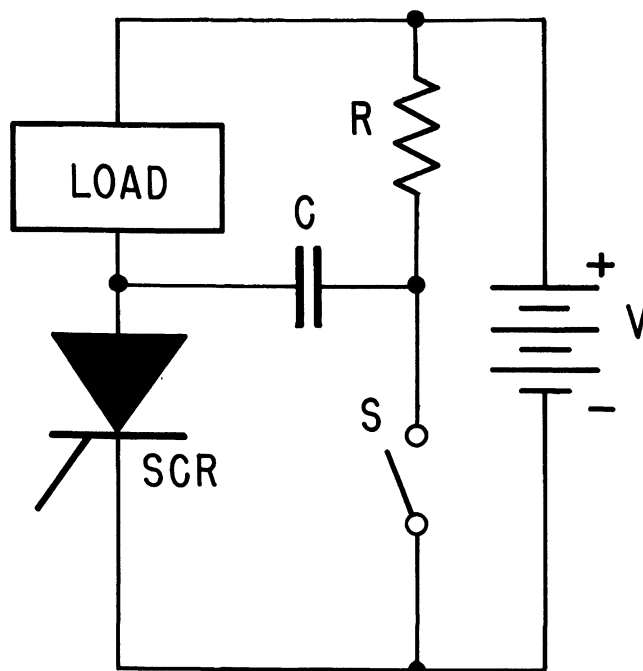

FIG. 1-15
"Turn off" of an SCR can be performed by reverse biasing the anode and cathode, see Fig. 1-15. While the SCR is "on", capacitor (C) will be charged by current path of the resistor, capacitor, SCR and battery. To turn the SCR off, the switch is closed, connecting the positive end of the capacitor to the SCR's cathode. Since the negative end of capacitor C is connected to the anode the SCR is reverse biased and will be turned "off".